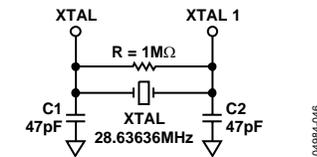

Figure 43. Crystal Circuit
Figure 43 shows an example reference clock circuit for the a ADV7181B. Special care must be taken when using a crystal circuit to generate the reference clock for the ADV7181B. Small variations in reference clock frequency can cause autodetection issues and impair the ADV7181B performance.
- Place a 1M Ohm shunt resistor across pins XTAL1 and XTAL2 as is shown in Figure 43.